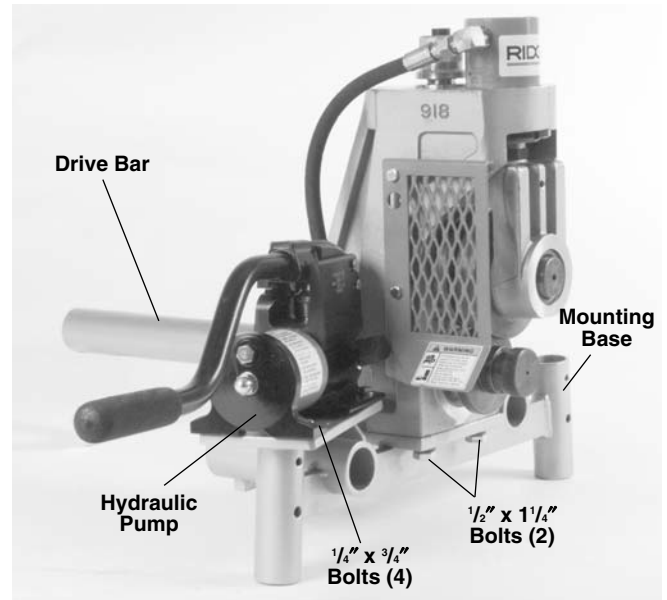

Figure 3 – 918 Heavy Duty Roll Groover on 1822 Mounting Base
1. Position 918 Roll Groover on the mounting base as shown in *Figure 3*.
2. Install and tighten the (2) 1/2" x 1 1/4" hex bolts which connect 918 to mounting base.
3. Position hydraulic pump and securely bolt in place with (4) 1/4" x 3/4" hex bolts.
4. Attach drive bar adapter to roll groover by tightening two (2) set screws.
6. Check that guard mounted to the roll groover is in place (Figure 3).